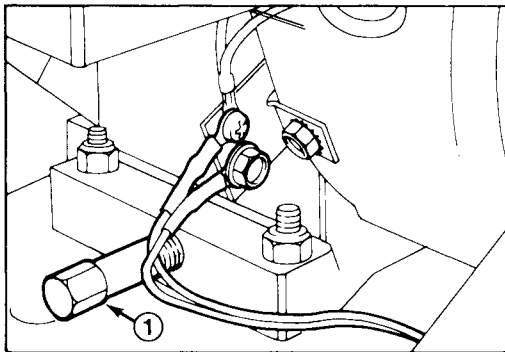

Figure 19
3. Clean area around oil drain cap. Next, slide oil drain pan below drain extension; then remove oil drain cap (Fig. 19).